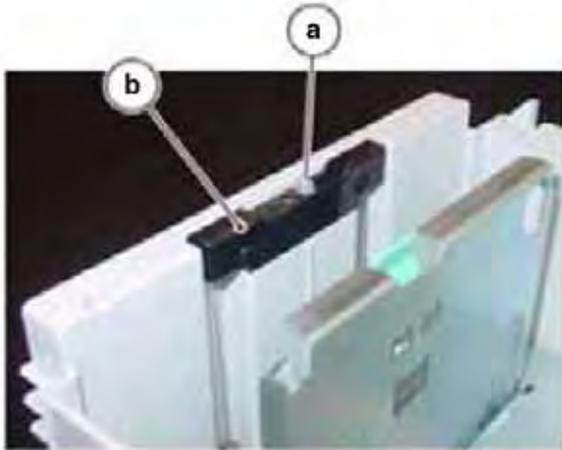

Figure 6 Guide Removal
8. Remove the Guide (Figure 6):
- a. Remove the Screw (1).